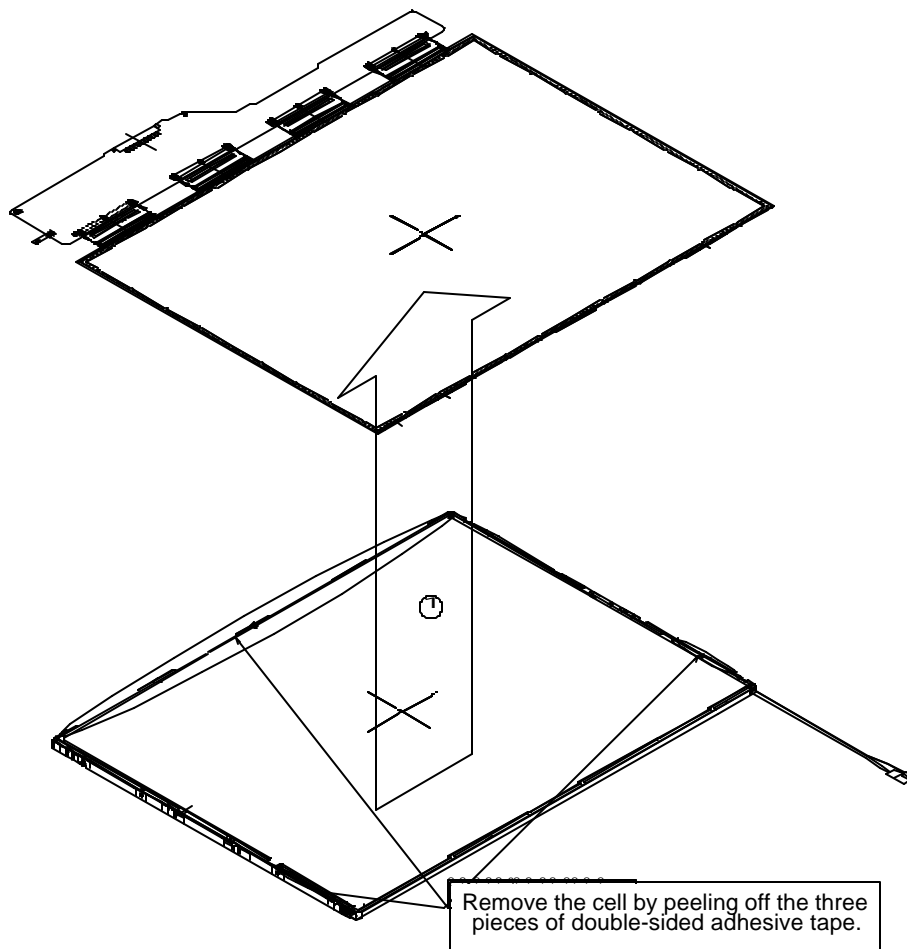

Figure 4-67 Replacing 14 Inch TMD fluorescent lamp (5)
1. Remove the cell of the PCB assembly from the backlight assembly, as indicated by (1) in Figure 4-67. Completely remove the double-sided tape remaining on the reverse side of the cell.
CAUTION: On the cell, three areas are bonded to the frame with the double-sided tape (as shown in Figure 4-67, one area is at the top, and two areas are at the bottom of both sides). Remove the cell gently, taking care not to damage it. Be careful not to peel off the masking tape in the three areas on the cell.